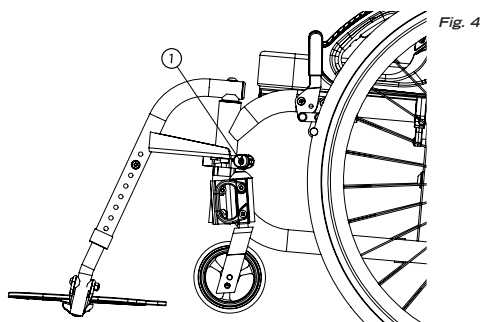

Fig. 4
- Push the release locking lever (1) (Fig. 4) inward and maintain that position so the front riggings can rotate freely.